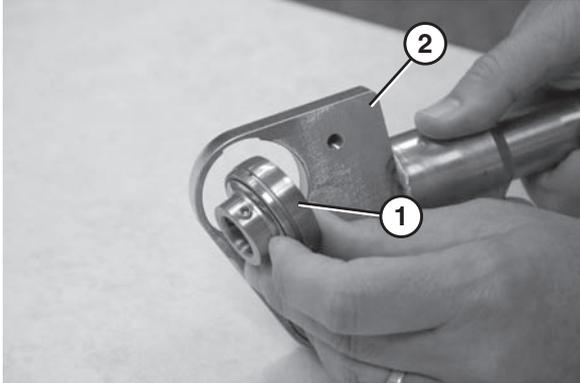

Figure 94
2. Remove the bearing (Figure 94, item 1) from the nose bar shaft assembly (Figure 94, item 2).